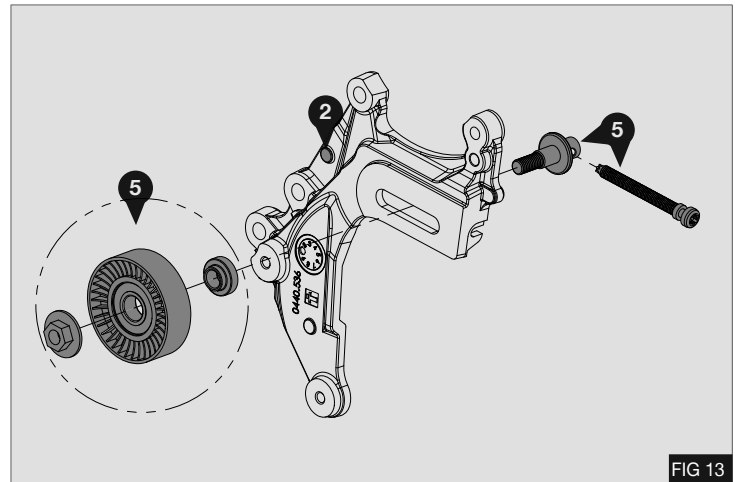

FIG 13
- Assemble the tensioner assembly as shown opposite using bracket (2) and tensioner assembly (5) - Fig 13